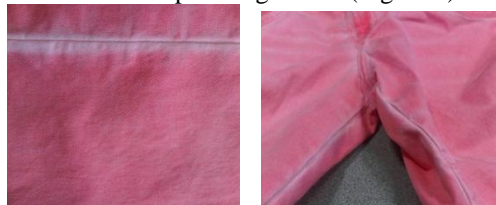

Figure 5. Garments dyed with Direct Dyes
- 1) At garment dyeing direct dyes is used for producing seamline effect/pukering effect. (Figure 5)